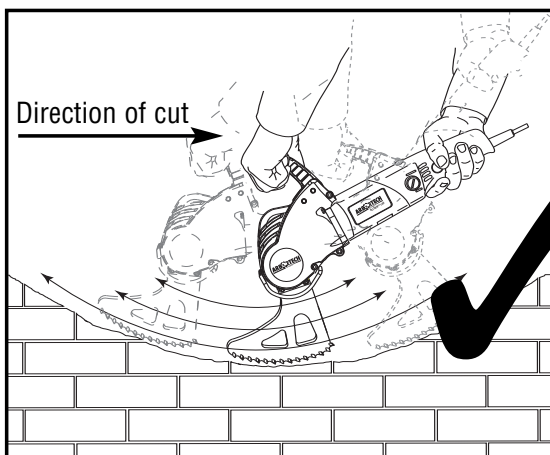

Fig.8
- While cutting, move the tool and blade in a slow "sawing" motion, which improves the cut rate, reduces concentrated heat build-up and evens the wear on the blades. (See fig.8 & 9)